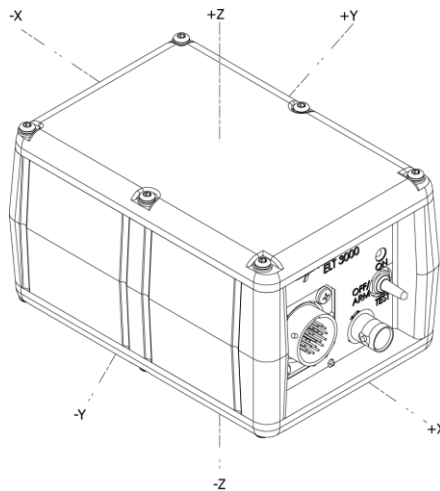

Figure 6 ELT Orthogonal Axes
NOTE: The fixed wing G-switch is triggered by approximately 2.3 Gs of deceleration (axis +X in Figure 6), whereas the five-axis G-switch is triggered by 12.5 Gs of deceleration (axes -X, -Y, +Y, -Z, and +Z in Figure 6), and requires a significant force to activate. The higher G-rating precludes inadvertent activation in helicopter applications but will allow for activation during a mishap.
- 4) Utilizing the sturdy padded surface, hold the ELT 10 inches (26.1 Centimeters) above the test area and thrust down forcefully maintaining a level axis into the pad to test the -X axis (see Figure 6).
- 5) Repeat step 2 for the -Y, +Y, -Z, and +Z axes (see Figure 6).
- 1) Connect the measuring device as specified in Figure 6 Performance Test Setup.